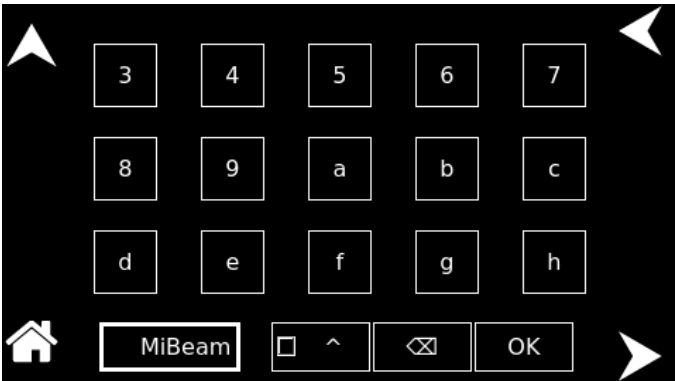

Figure 13-48. LAN Screen - Host Name
- **Host Name:** Allows setting a unique alpha-numeric host name. Refer to Figure 13-48.